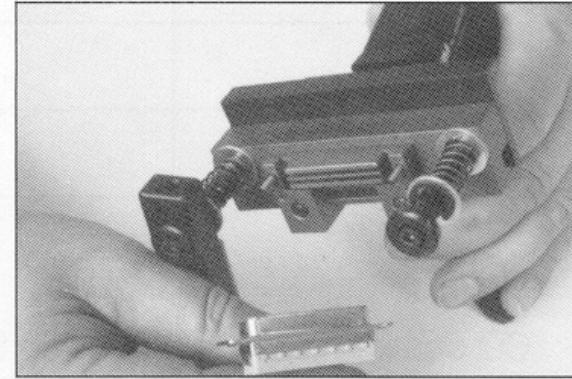

Fig. 7
9. Remove assembled connector from the assembly head and visually inspect to ensure that the cover is latched to the connector. (fig. 7)